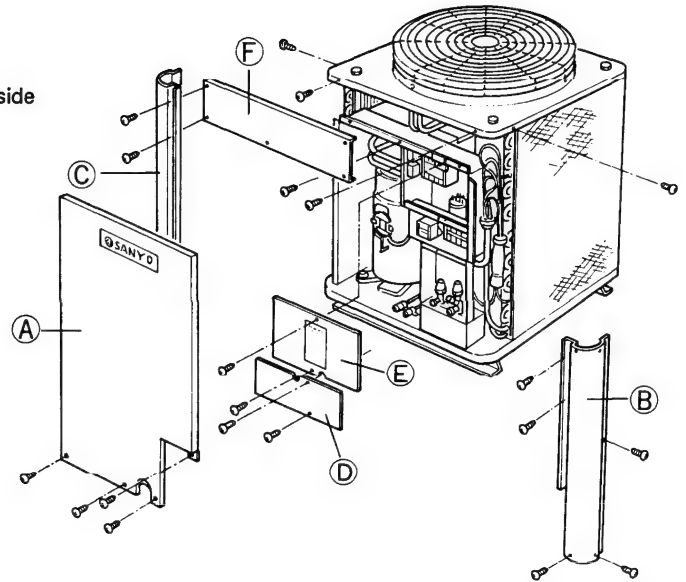

Fig.13
As there are many places where wires must be removed, execute removal after checking against the electric diagram attached on the rear of the cover plate (E) (Fig. 13), and also refer to this electric diagram for reconnection after compressor exchange.